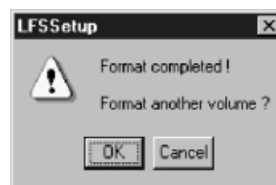

Fig. 12 “Format completed!” dialog box
10. If the formatting is completed error-free, the “Format completed!” dialog box shown in Fig. 12 appears.
10. If the formatting is completed error-free, the "Format completed!" dialog box shown in Fig. 12 appears. Click [OK].